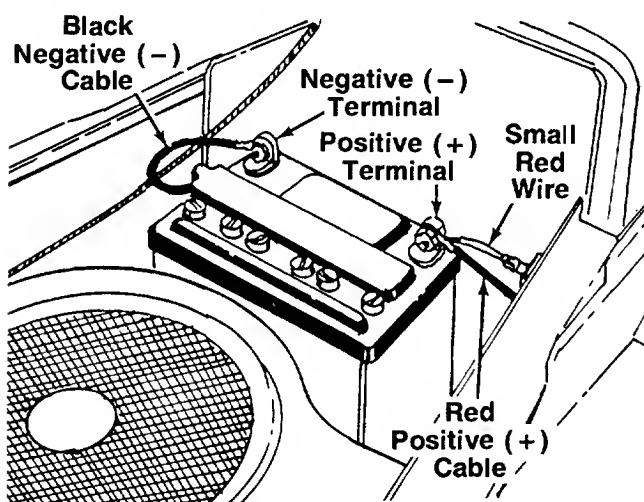

FIGURE 6.
2. Attach the positive cable (heavy red wire) and the small red wire (from the circuit breaker) to the positive battery terminal (+) with hex bolt 5/8" long, 1/4" lock washer and hex nut. See figure 6.